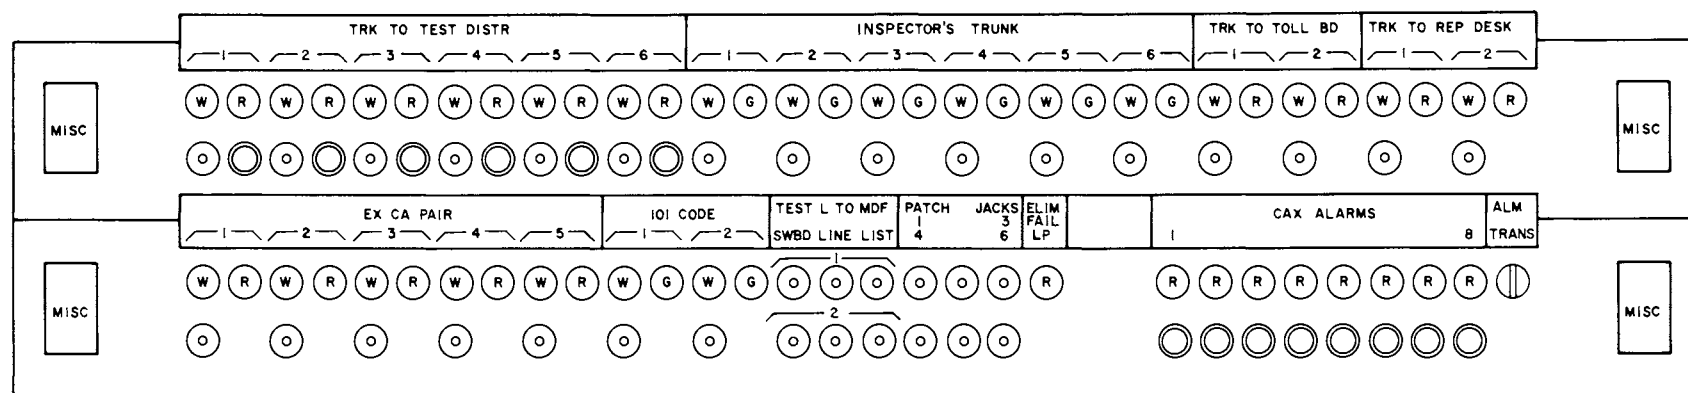

Figure 5. MISC jack strips of a typical Type 180L Local Test Panel.
The miscellaneous jack strips mount single jacks, push keys and lamp equipment. Lamp equipment is mounted in the top row and associated jack equipment in the bottom row. The push keys are also mounted in the bottom row. The test function of each jack on the miscellaneous jack strips is shown by a designation above the jack on a bristol board designation strip. The designation strip consists of 16 individual increments, each increment serving two jacks, in this way designations can readily be changed without changing the entire strip. In addition the miscellaneous jack strips are identified by number plates designated MISC and located at each end of the strips. Figure 5 illustrates the MISC (upper and lower) jack strips of a typical Type 180L Local Test Panel. The function of the lines and trunks available is described in section 4.
NOTE: The connection to a busy or idle line is held with the cord removed until it is released by operating the associated TRK TO TEST DISTRIBUTOR release key (located on the miscellaneous jack strip, figure 5).
- (1) Monitoring through LIST jack (miscellaneous jack strip, figure 5).
- (2) Testing heat coil continuity by measuring line relay voltage through the LIST jack.
- (3) Testing the line side (outside equipment) through LINE jack (miscellaneous jack strip, figure 5).
- (4) Testing switchboard side (inside equipment) through SWBD jack (located on miscellaneous jack strip, figure 5).